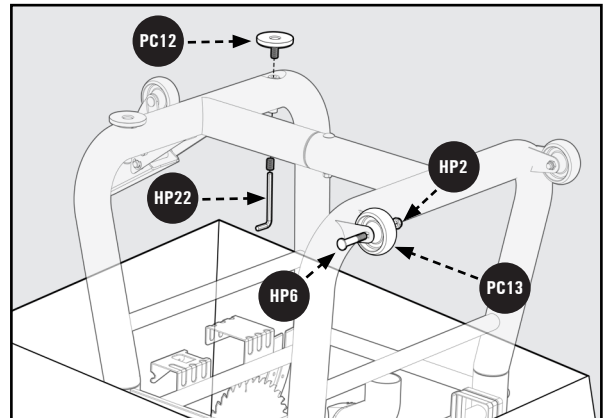

Figure 3
1. Using a 13mm Wrench, attach the two Fixed Wheels (PC13) to the Left Leg using the (2) M8 x 53mm Carriage Bolts (HP6) and M8 Nylock Nuts (HP2). One for each wheel as shown in Figure 3.
4. The two Adjustable Feet (PC12) can be raised and lowered by rotating them clockwise or counterclockwise. The Feet may be adjusted to level the Saw and can be locked in place with the pre-assembled Set Screws using the provided 6mm Allen Wrench (HP22). See Figure 3.